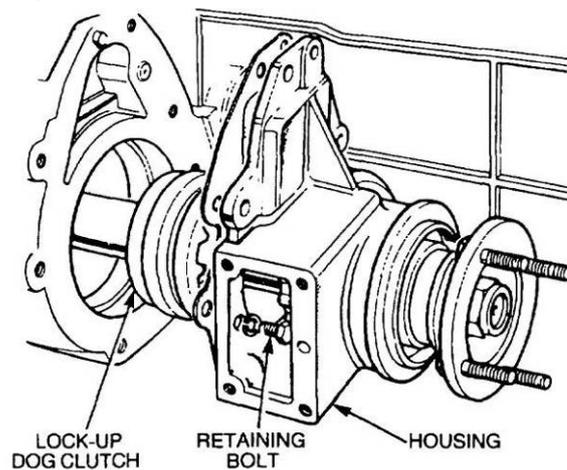

Figure 205 Removal of the Front Output Shaft and Housing
- n. Remove the six bolts and lock-washers securing the front output shaft housing to the transfer casing (Figure 205), withdraw the housing and output shaft. Remove the lock-up dog clutch, the output shaft and the oil seal. Remove the circlip and, using a suitable press, remove the bearing.